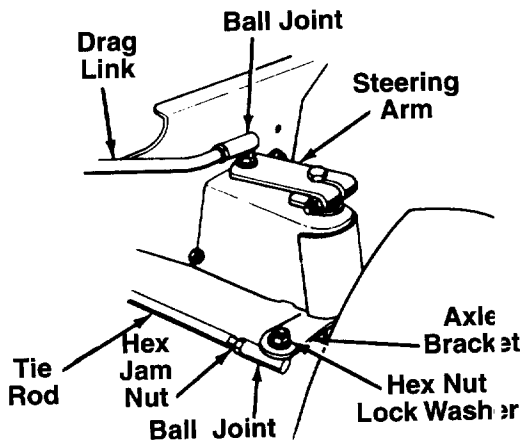

FIGURE 23.—Units with adjustable tie rods
1. Remove the hex nut and lock washer, and drop the end of the tie rod from the axle bracket. See figure 23.